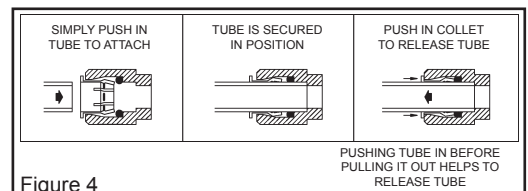

Figure 4
5. **Actuation of Quick Connect Water Fittings:** Cooler is provided with lead-free connectors which utilize an o-ring seal. To remove tubing from the fittings, relieve water pressure and push in on gray collar while pulling on the tubing. To insert tubing, push tube straight into fitting until it reaches a positive stop, approximately 3/4" (19mm). See Figure 4.